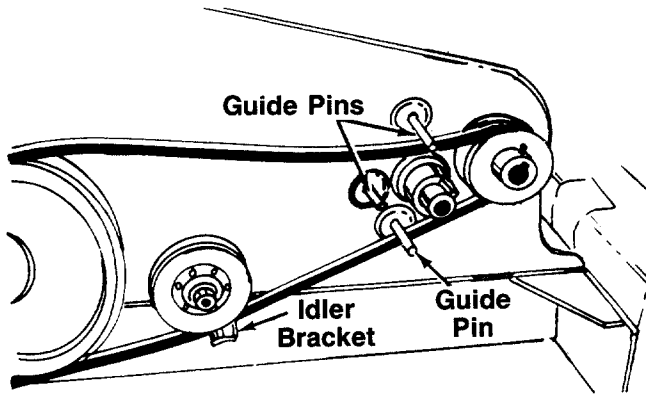

FIGURE 26.
6. Remove the belt and install the new belt. Be sure the belt is routed around the guide pins as shown in figure 26.
Belt must be between the "V"-idler pulley and the idler bracket. See figure 26.